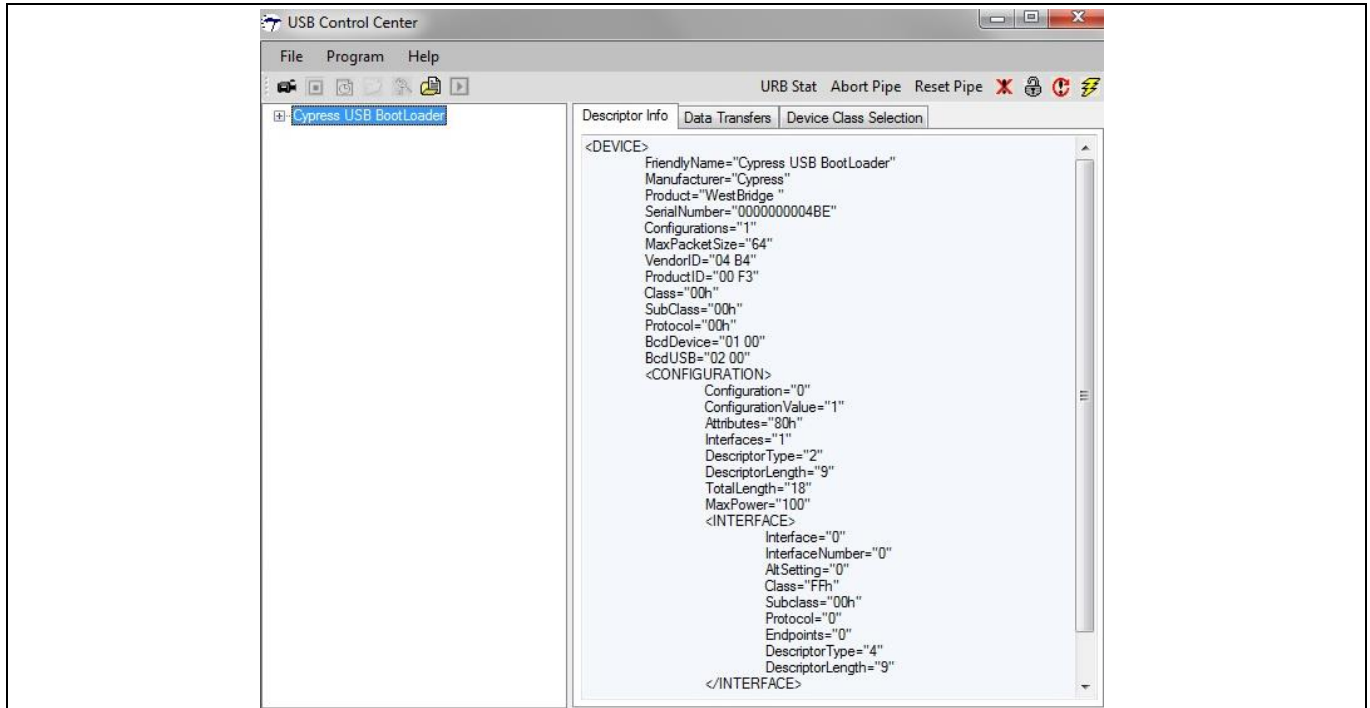

Figure 16 Cypress USB BootLoader Enumeration in control center
3. When connected to a USB Host, the FX3™ device enumerates in the Control Center as “Cypress USB BootLoader,” as shown in Figure 16.